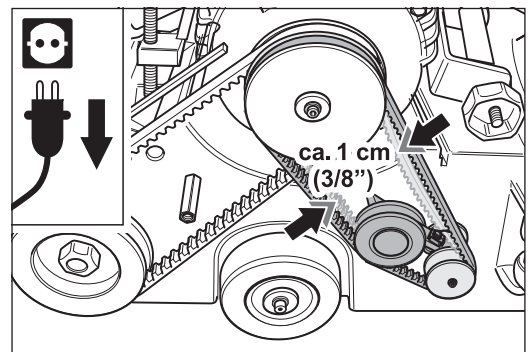

Fig. 67 Belt tension: The slack on the V-belt should be just under one width of the V-belt.
- 8 Control the V-belt tension. The slack on the V-belt should be just under one V-belt width (Fig. 67)